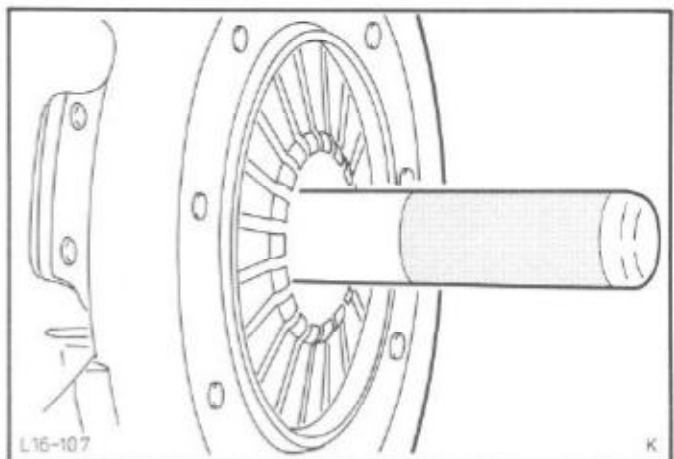

Fig.149. Centre the clutch disc.
4. Locate the clutch disc on the flywheel with the aid of the centring tool, Fig.149.